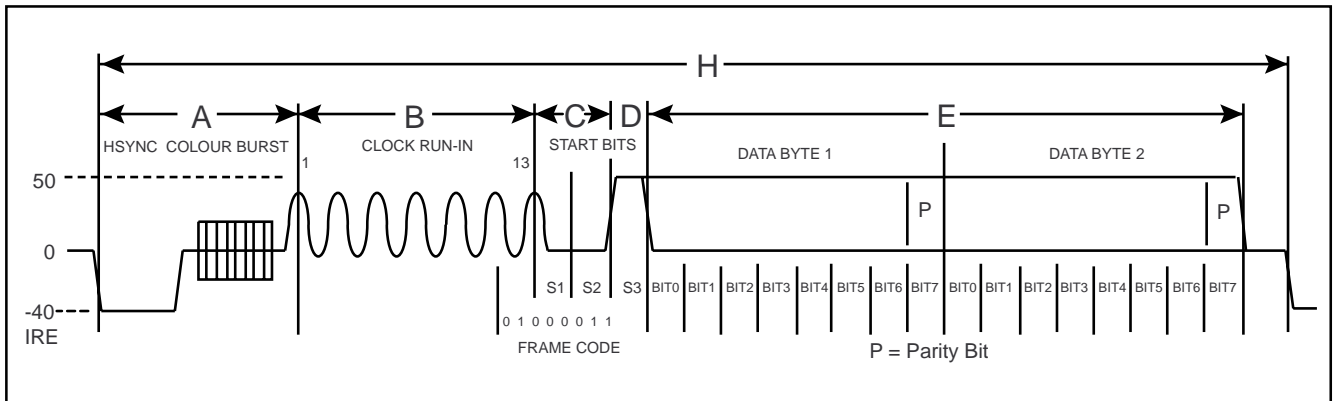

Figure 7 Closed Caption format
Two bytes of data are coded on the line 21 of each field, see figure 7. In the NTSC Closed Caption service, the default state is to code on line 21 of field one only. An additional service can also be provided using line 21 (284) of the second field. The data is coded as NRZ with odd parity, after a clock run-in and framing code. The clock run-in frequency = 0.5034965MHz which is related to the nominal line period,  $D = H / 32$ .